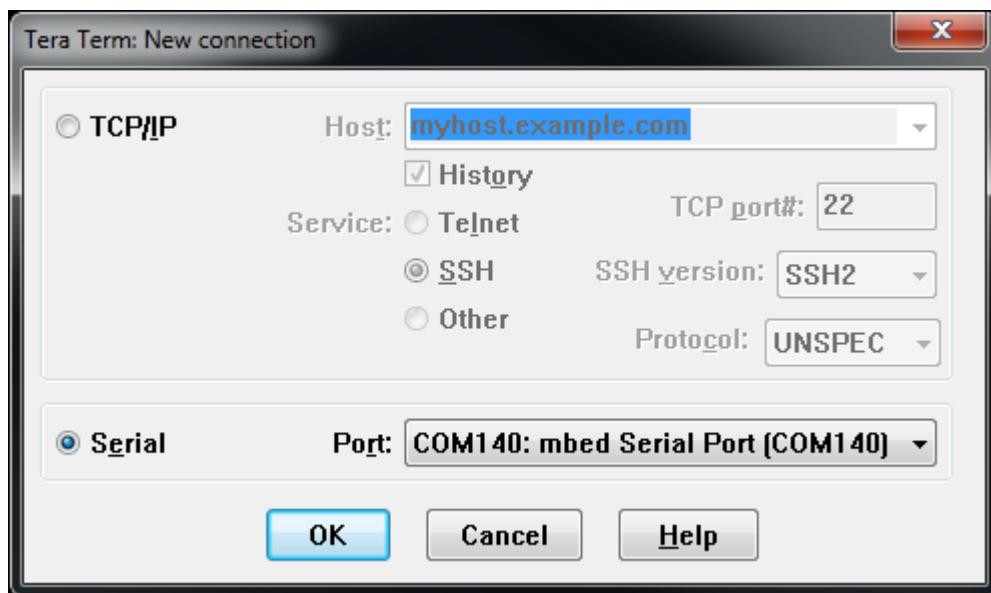

Figure 12. Connect to mbed Serial Port
- 23) Open the terminal application and connect to the mbed serial port. If you are using TeraTerm, select **File** and then **New Connection...** from the menu bar, and then select **Serial**. Provide the **Port** corresponding to **mbed Serial Port**, as shown in Figure 12, and click **OK**.